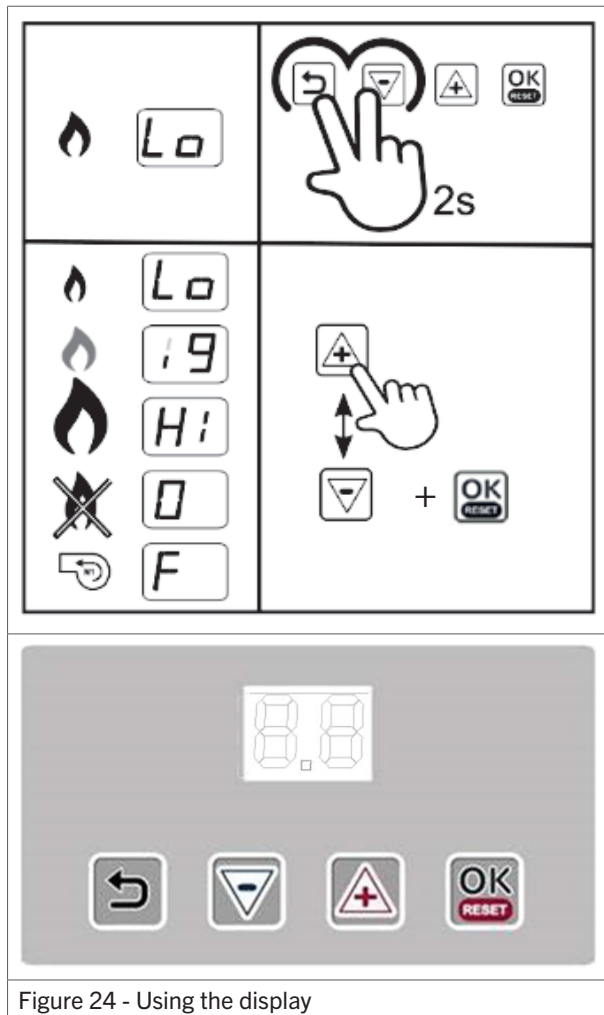

Figure 24 - Using the display
1. Press and hold the **Return** and (–) button for a few seconds (figure 24). The display will alternate between Lo and St. This means the heater will start up in Low fire.
2. Press the (+) and (–) buttons to toggle between Low and High fire (figure 24).